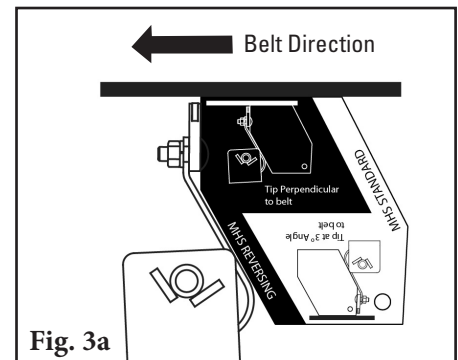

Fig. 3a
Rotate the pole until the tips align with the white “MHS Standard” side of the tip setup gauge provided (Fig. 3a).
**For MHS Reversing:** Rotate the pole until the tips are perpendicular to the belt, using the black “MHS Reversing” side of the tip setup gauge provided (Fig. 3a).